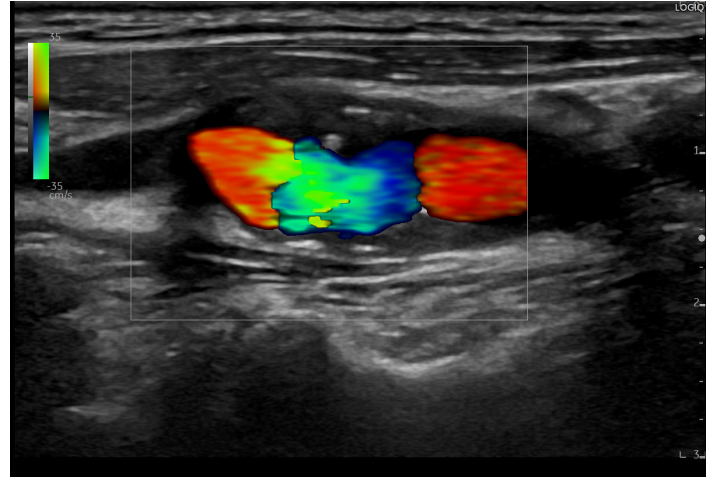

Figure 5. CF imaging in the carotid artery showing high grade stenosis.
- Detection of high velocity areas in the carotid or lower extremity arteries (Figure 5)